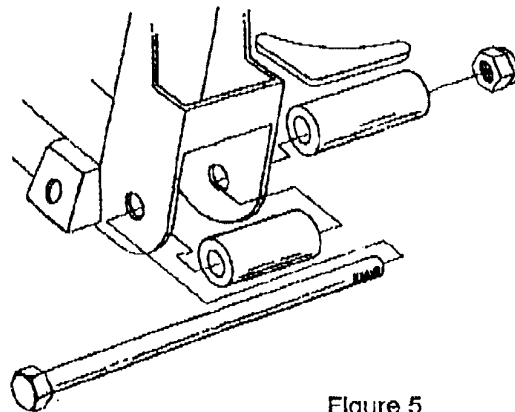

Figure 5
6. If you purchased a complete I.F.S. Package from [REDACTED] it was supplied with Full Lower A-Arms. Begin by installing the Spacers onto the crossmember. The holes where the lower control arms attach to the Crossmember must be enlarged to 5/8". Install the Crossmember Spacers and the Rear Spacers which were supplied with the Lower Control Arms onto the Crossmember as shown in Figure 5 using the supplied Inner Bushing Bolts, Nuts and a temporary spacer under the Nuts. DO NOT use the A-Arms for this operation as the welding heat will melt the rubber bushings. Tighten the Bolts and Nuts tight. Weld the Rear Spacers to the Crossmember all around. Weld the Crossmember Spacers as far as possible inside the crossmember on both ends. Position the Gussets horizontally, not vertically, against the Rear Spacers and the back of the Crossmember. Weld Gussets to Spacers and Crossmember. When it cools, remove the bolt.